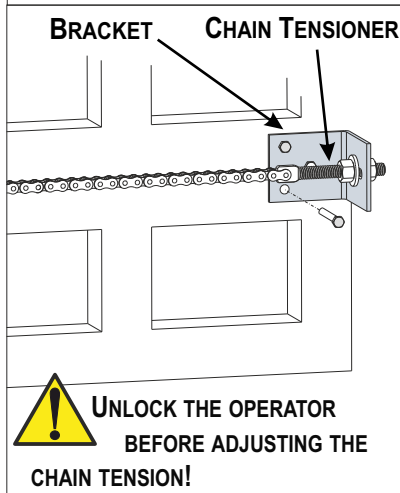

Fig. 20
7.1. Secure two sturdy brackets at the two extremities of the gate for attaching the chain - Fig. 20
7.2. Install a chain tensioners on each bracket to adjust the chain tension - Fig. 20